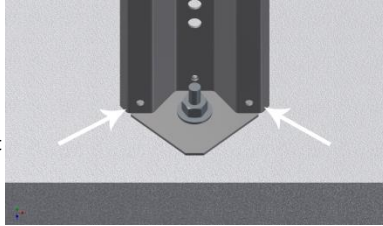

Figure 1
1. Remove all bolts connecting the leg to the footpad. Loosen the original anchor bolt but leave it intact at the bottom of the footpad. (Figure 1)